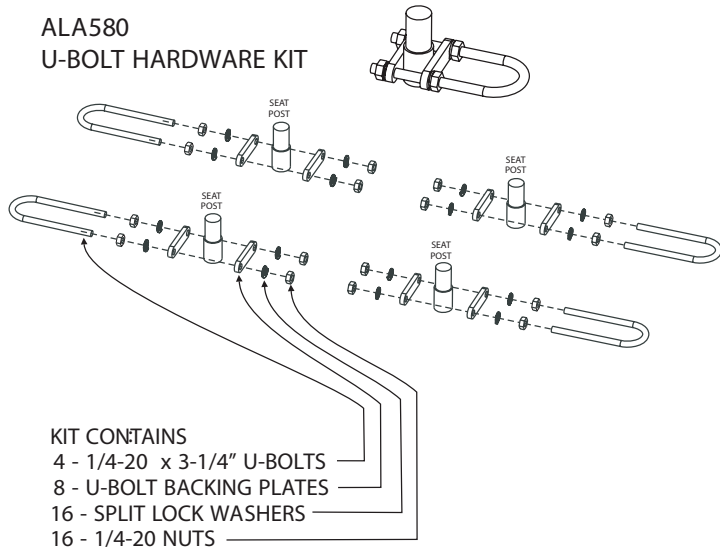

Figure 4-59
1. For power chairs or scooters without a center seat post, the seat is normally attached to a tubular frame. Install the U-bolts, two on each side, to the frame as shown. **See Figure 4-59.**